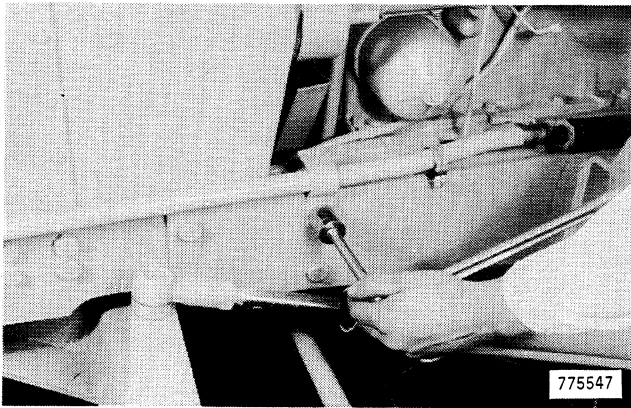

Figure 22
27. Remove the cap screw from the suction tube clamp, Figure 22. Remove the suction tube.